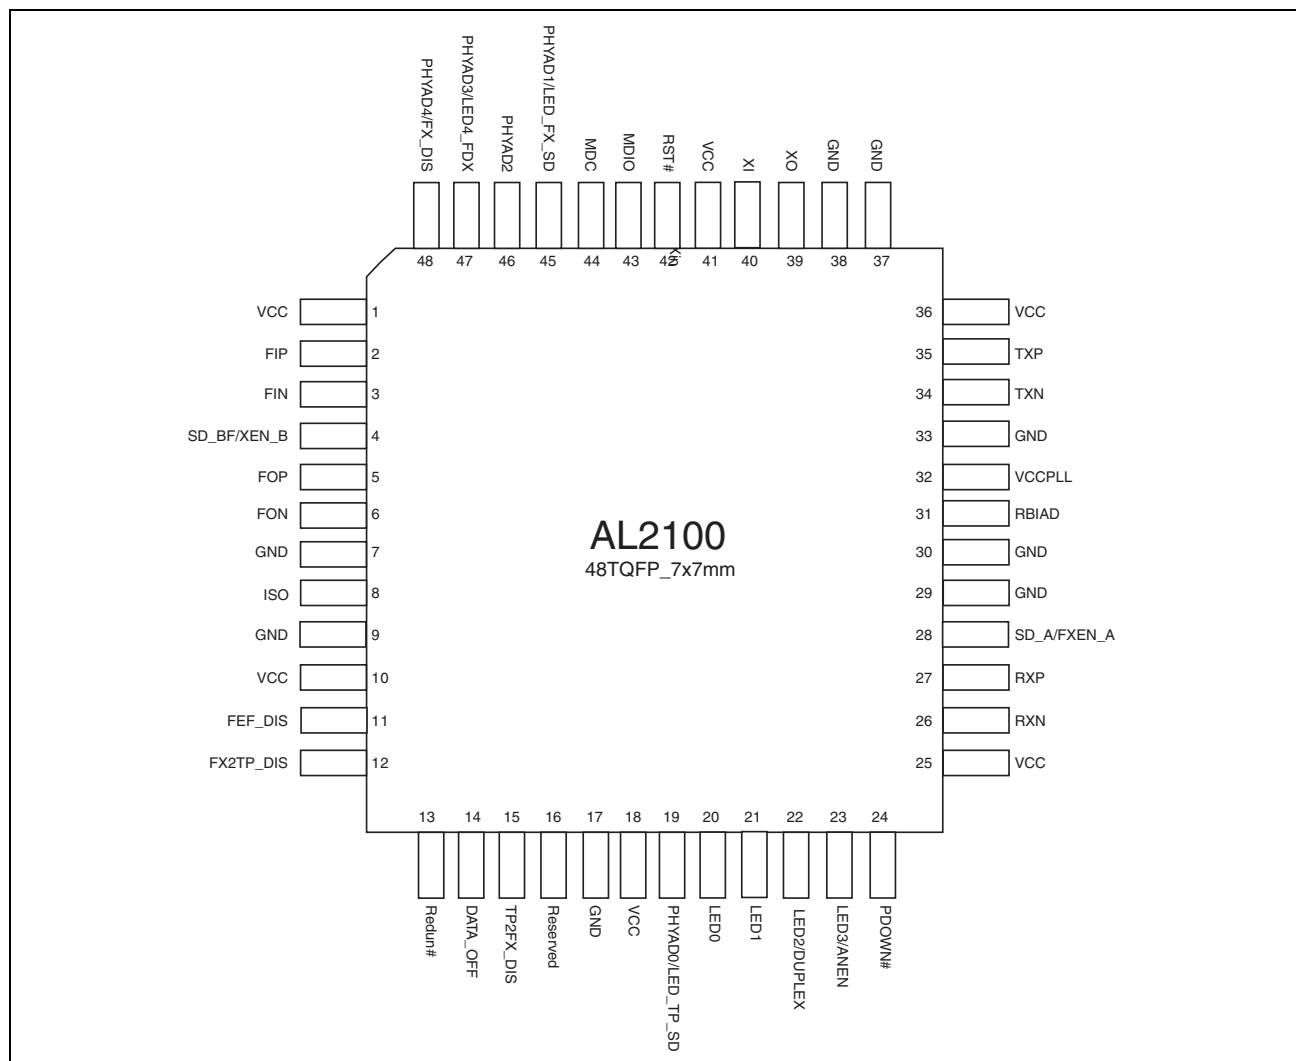

Figure 2: AL2100 Pin Out
The AL2100 (Figure 2) contains a physical layer interface (PHY) for 100BASE-TX and a PHY for 100BASE-FX networks. The PHY contains all the necessary functions such as elastic store, quantizer, and driver circuits to complete a media converter design. The device converts the MLT3 scrambled symbols from the twisted-pair (TP) input port into 4B5B NRZI encoded data, and transmits it over fiber media. The 4B5B NRZI encoded data from the fiber-input port is converted to a scrambled MLT3 symbol stream for TP transmission.